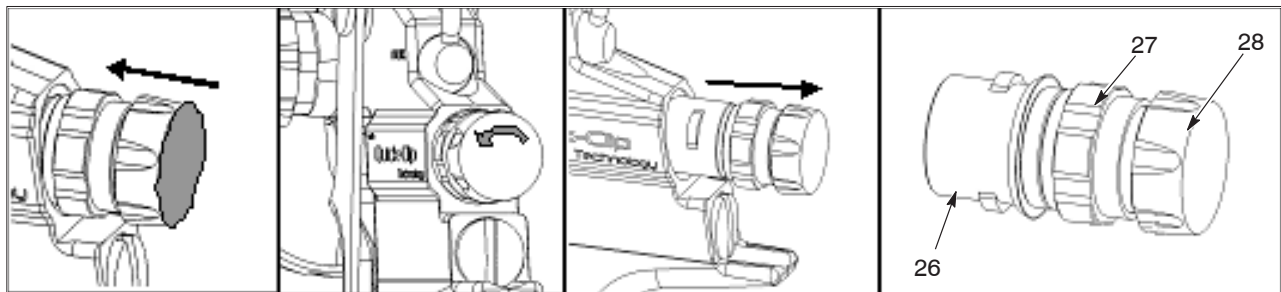
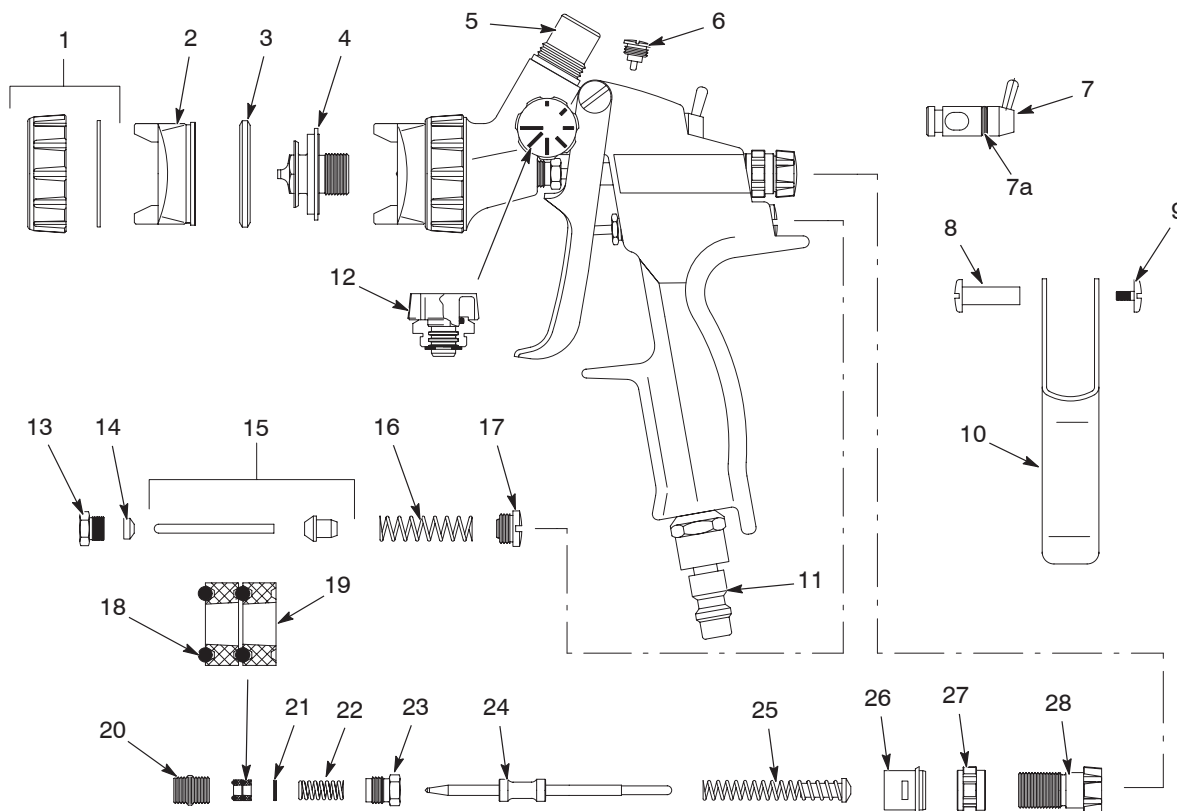

Figure 6 Removing Material Flow Regulator Assembly
Figure 7 Trilogy GP AS and LVLP Spray Guns
See Figure 7. The trigger pin (8), valve pin (15), and paint needle (24) should be lubricated with silicone-free oil daily.
1. See Figure 7. Turn the air cap retainer (1) 1/4 turn counterclockwise and remove it and the air cap from the gun.
See Figure 6 and Figure 7. The material flow regulator is an assembly consisting of a retaining collar, lock nut, and needle adjustment screw (26, 27, 28). It allows you to change the needle without losing your material flow setting.
1. See Figure 7. Remove the needle as described in *Needle Replacement*.
3. Remove the trigger screw (9), then remove the axle (8) and trigger (10).
4. Unscrew the packing gland (23) and remove the pressure spring (22) and pressure disc (21).
5. With a hex wrench, remove the needle guide (20) from the front of the gun. Replace the two O-rings and two seals (18, 19), then reinstall the needle guide into the gun body.
1. See Figure 7. Remove the trigger.
1. See Figure 7. Remove the retaining screw (17) from the gun body.
2. Remove the pressure spring (16) and valve pin (15).